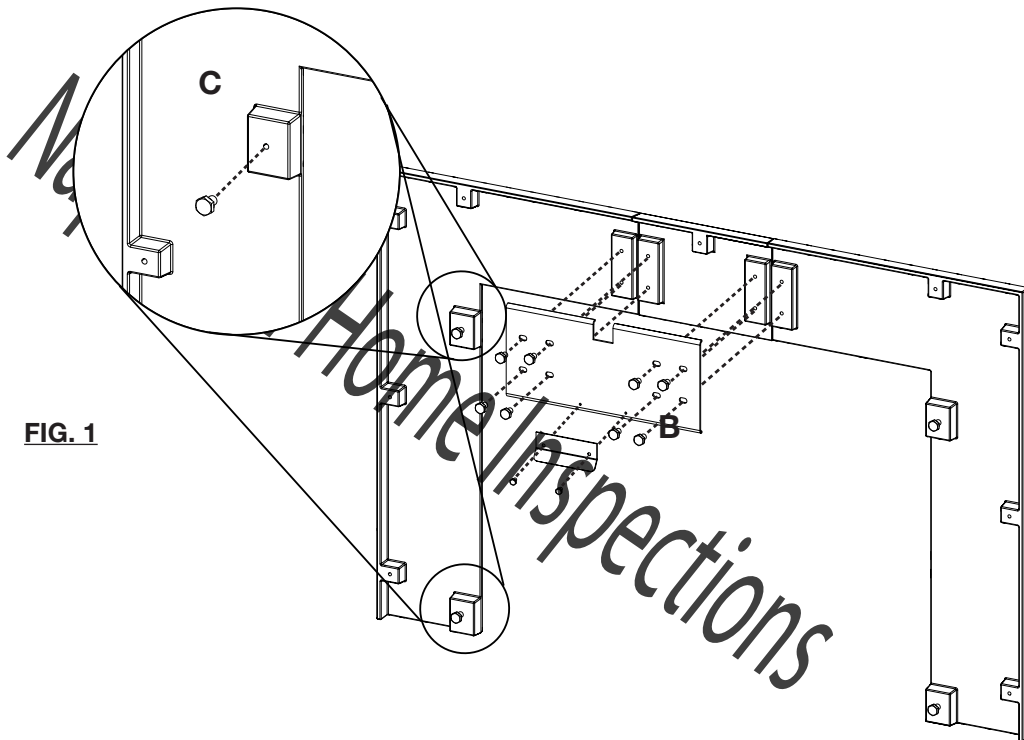

FIG. 1
- B. Line up the casting holes with the casting bracket holes and secure in place using the screws. Secure the casting support to the casting bracket using the screws (FIG 1, B).
- C. Loosely secure the screws to the holes in the side casting (FIG 1, C). Repeat on the other side.